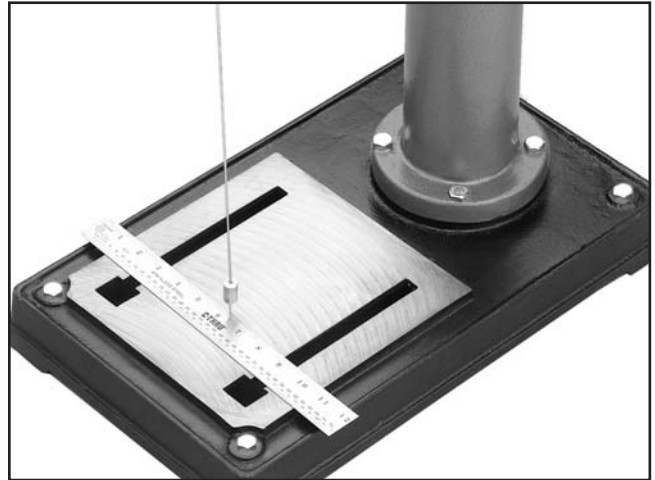

Figure 12. Aligning headstock with base.
3. Place a ruler or tape measure on the base and suspend a plum bob from the center of the headstock spindle so it is over the tape/ruler as shown in **Figure 12**.